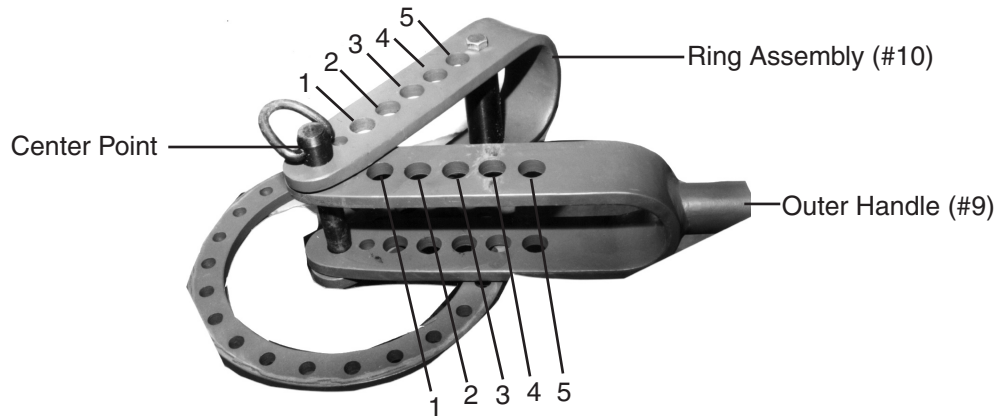

Figure 3 - Numbering of Holes
Throughout this manual, the holes are often identified by a specific number, i.e., the 3rd hole in the Handle. There are five (5) holes referred to in the Outer Handle/Die Receiver (#9) and 5 holes referred to in the Ring Assembly (#10). For clarification of each hole and its corresponding number, please refer to Figure 3 above.
- Two Dies can be placed so that one is on the Outer Handle/Die Receiver (#9) and one at the center point where the Outer Handle/Die Receiver (#9) and Ring Assembly/Die Receiver (#10) intersect-see Figure 3.